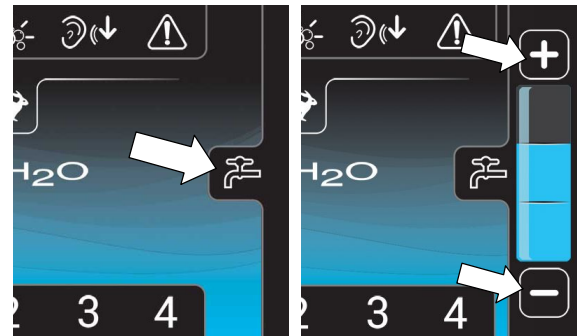

FIG. 51
4.  Press the solution flow icon to display the solution flow scale (Figure 51). Press the (+) symbol to increase solution flow. Press the (-) symbol to decrease the flow solution or to turn it off.